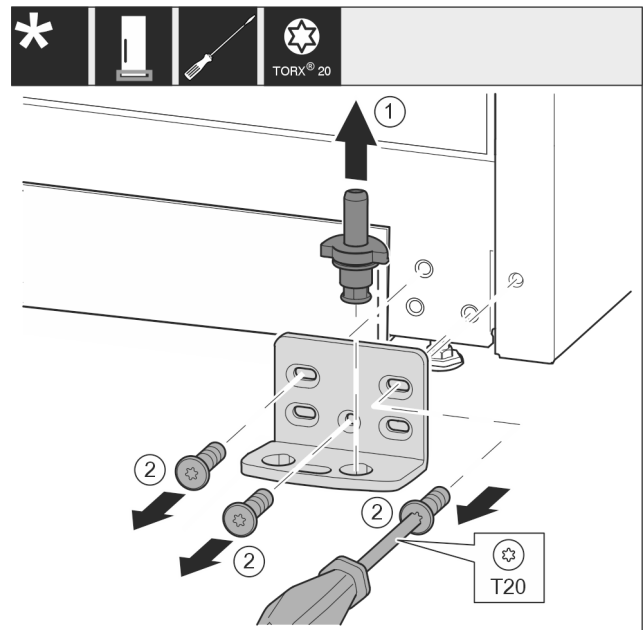

Fig. 11
- ▶ Lift the bearing pin completely upward and remove it. Fig. 11 (1)
- ▶ Remove the screws with the T20 screwdriver and take off the bearing bracket. Fig. 11 (2)